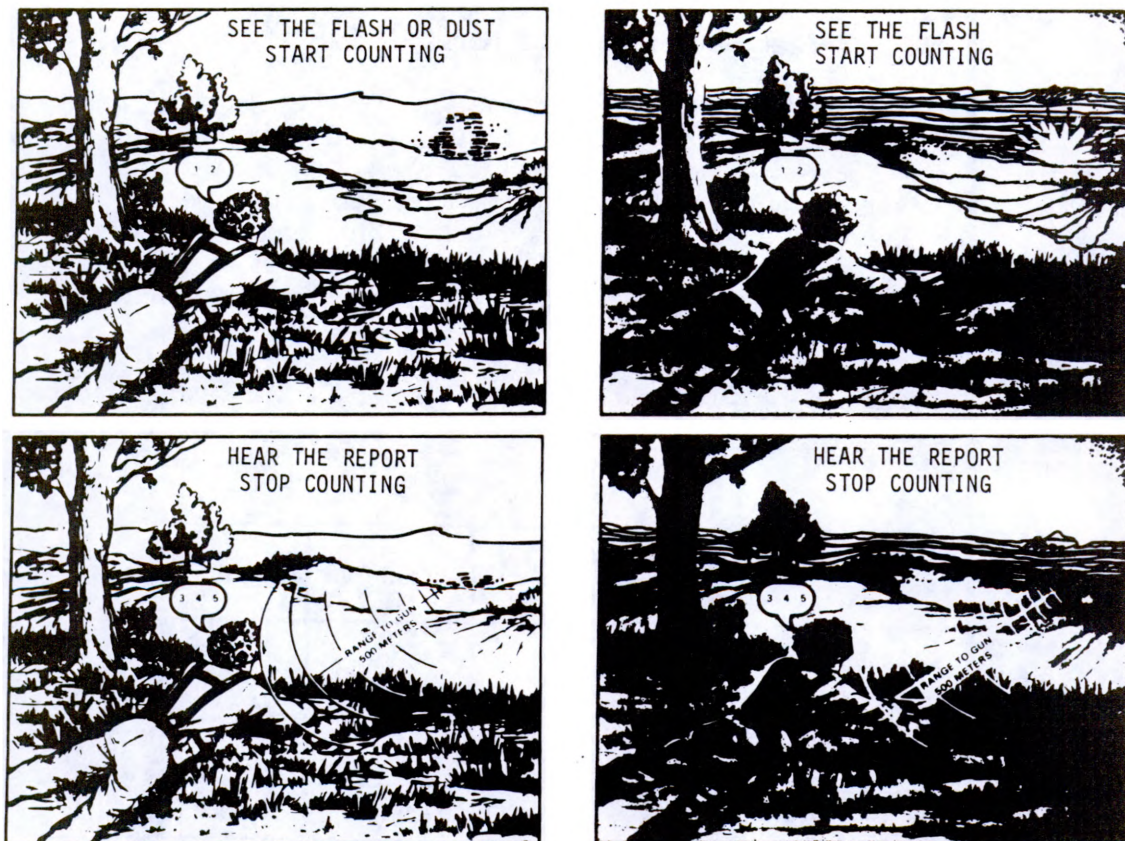

Figure 5
a. In this technique, range is determined by measuring the time between the flash and the gun report (fig. 5).